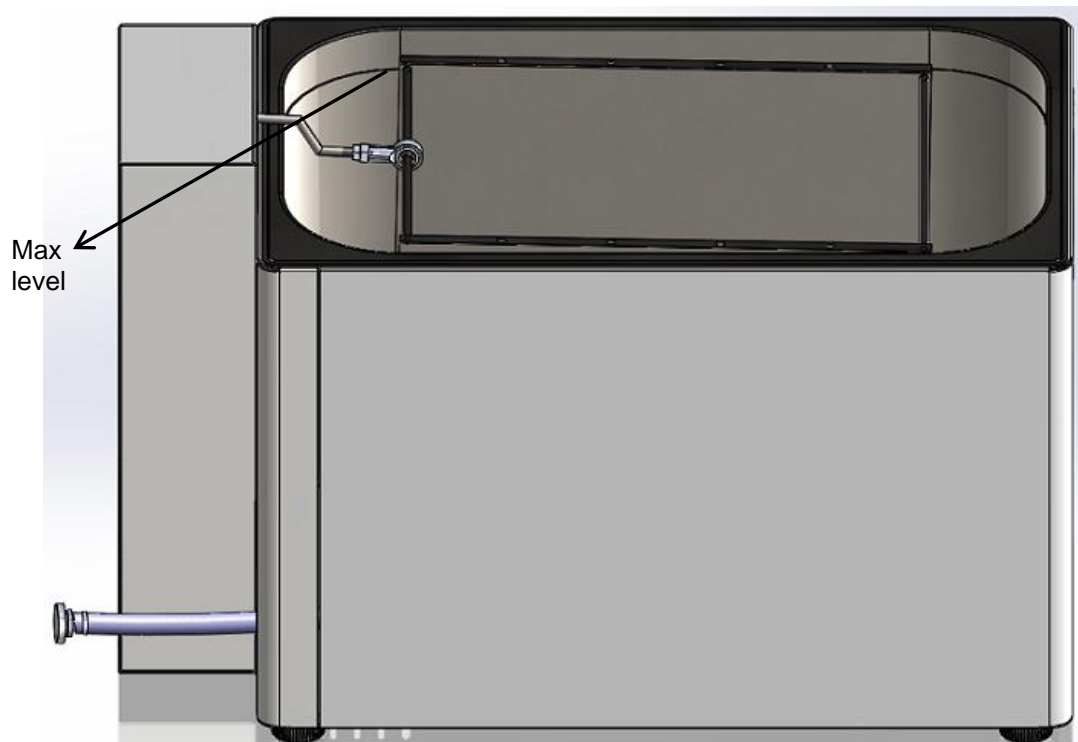

Figure 3
- Fill the tank with distilled water or liquid and put the samples up to the maximum line MAX (see Figure 3).